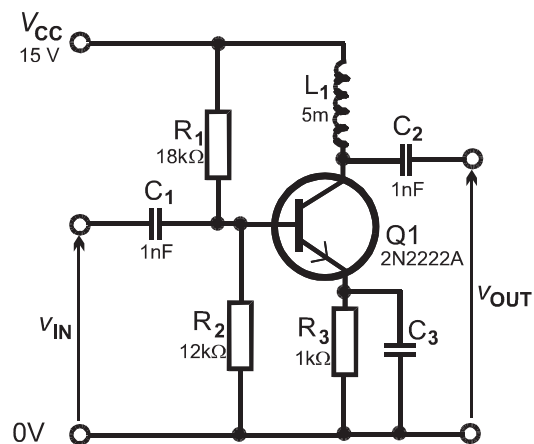

FIGURE 31.11 Compare this RF amplifier with the common-emitter amplifier on p. 71.
- **RF amplifier:** An RF amplifier is used to increase the output power of the transmitter. Figure 31.11 shows a